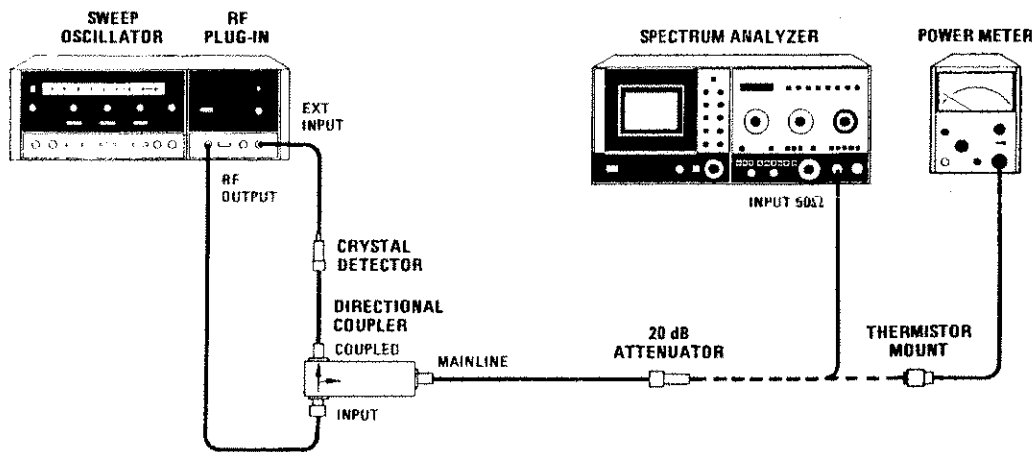

Figure 4-13. Nonharmonic Spurious Signals Test Setup
- a. Connect equipment as shown in Figure 4-13 with power meter connected to 20 dB Attenuator. Press 8620C LINE Pushbutton to ON. Allow 30 minutes warmup time.